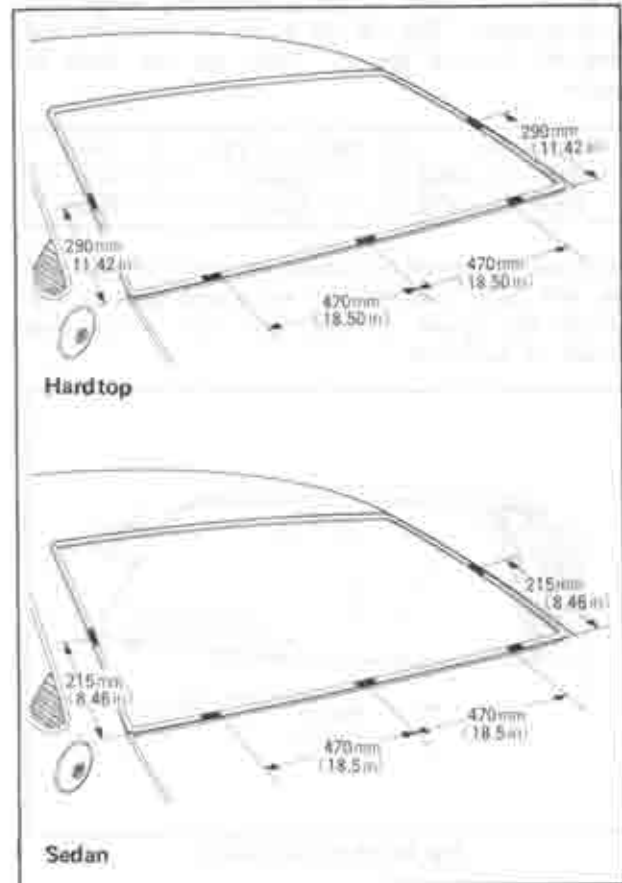

Fig. 14-35 Position spacers
3. The directions and positions each spacer to be bonded are shown in Fig. 14-35.